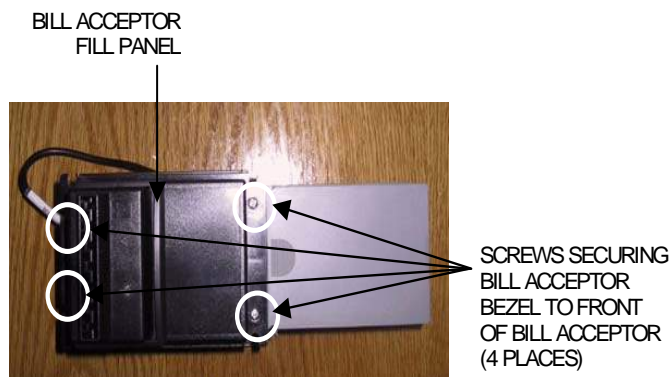

FIGURE 9 - FRONT VIEW OF BILL ACCEPTOR
11. Remove the bill acceptor fill panel from the bill acceptor bezel. Remove the 4 screws securing the bill acceptor bezel to the front of the bill acceptor. Screws are located above and beneath the acceptor. Remove the bezel and the metal mounting plate underneath. See Figures 9 and 10.
2. Line up the bezel's mounting plate on the front of the new bill acceptor; see Figure 11 for proper orientation. Line up the bezel on top of the mounting plate and secure to the bill acceptor with 4 screws (see Figure 9). Replace the bill acceptor fill panel on the bezel as shown in Figure 10.